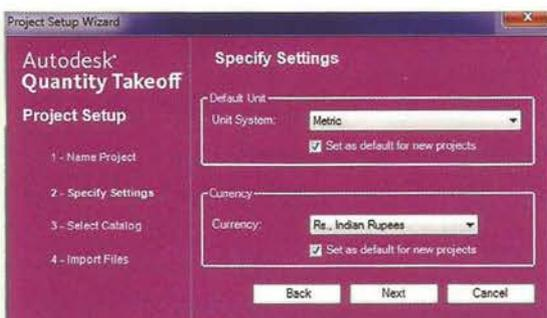

Fig 15: Unit System and Currency Settings
- In the Project Settings, select the unit system and the currency. Select 'Set as default,' if you want to save this settings as default for new projects (Figure 15).